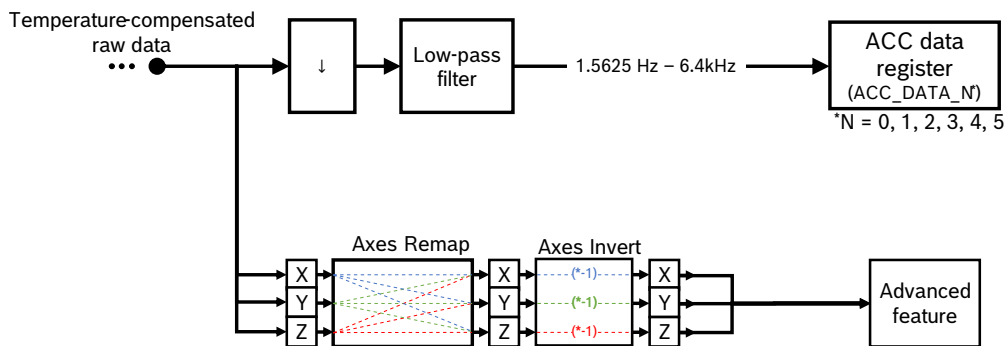

Figure 23: Axis remapping of datapath
**Axis remapping of datapath** The host can remap the accelerometer axes in `GENERAL_SETTINGS_0.feat_axis_ex` and change their polarity in `GENERAL_SETTINGS_0.feat_x_inv`, `GENERAL_SETTINGS_0.feat_y_inv` and `GENERAL_SETTINGS_0.feat_z_inv`, as illustrated in figure 23 . Please note that the axis remapping feature does not influence the values in `ACC_DATA_0` to `ACC_DATA_5`. It affects only the datapath that is fed to advanced features.